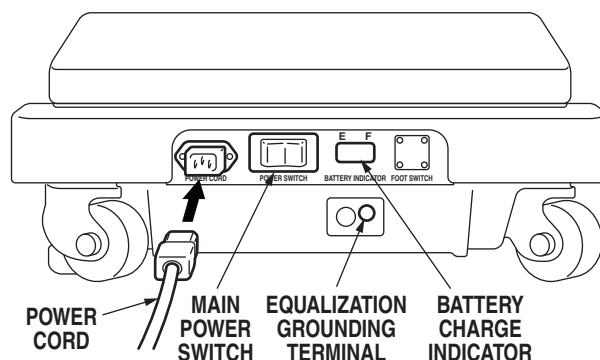

Figure 2-1. Electrical Panel
a. Make sure the Power cord is securely attached to the table. To install the power cord, align the cord connector with the base connector, insert the cord into the connector until it locks in place. See figure 2-1. Plug the cord into a properly grounded, Hospital Grade, AC outlet. Make sure the power cord is routed to the outlet to prevent it from being in the way of operating personnel. To remove the power cord, and pull the cord connector out of the base connector.
a. Make sure the Main Power Switch indicator light, on the electrical panel, is OFF. See figure 2-1. If the indicator light is ON, turn AC operation OFF with the main power switch.